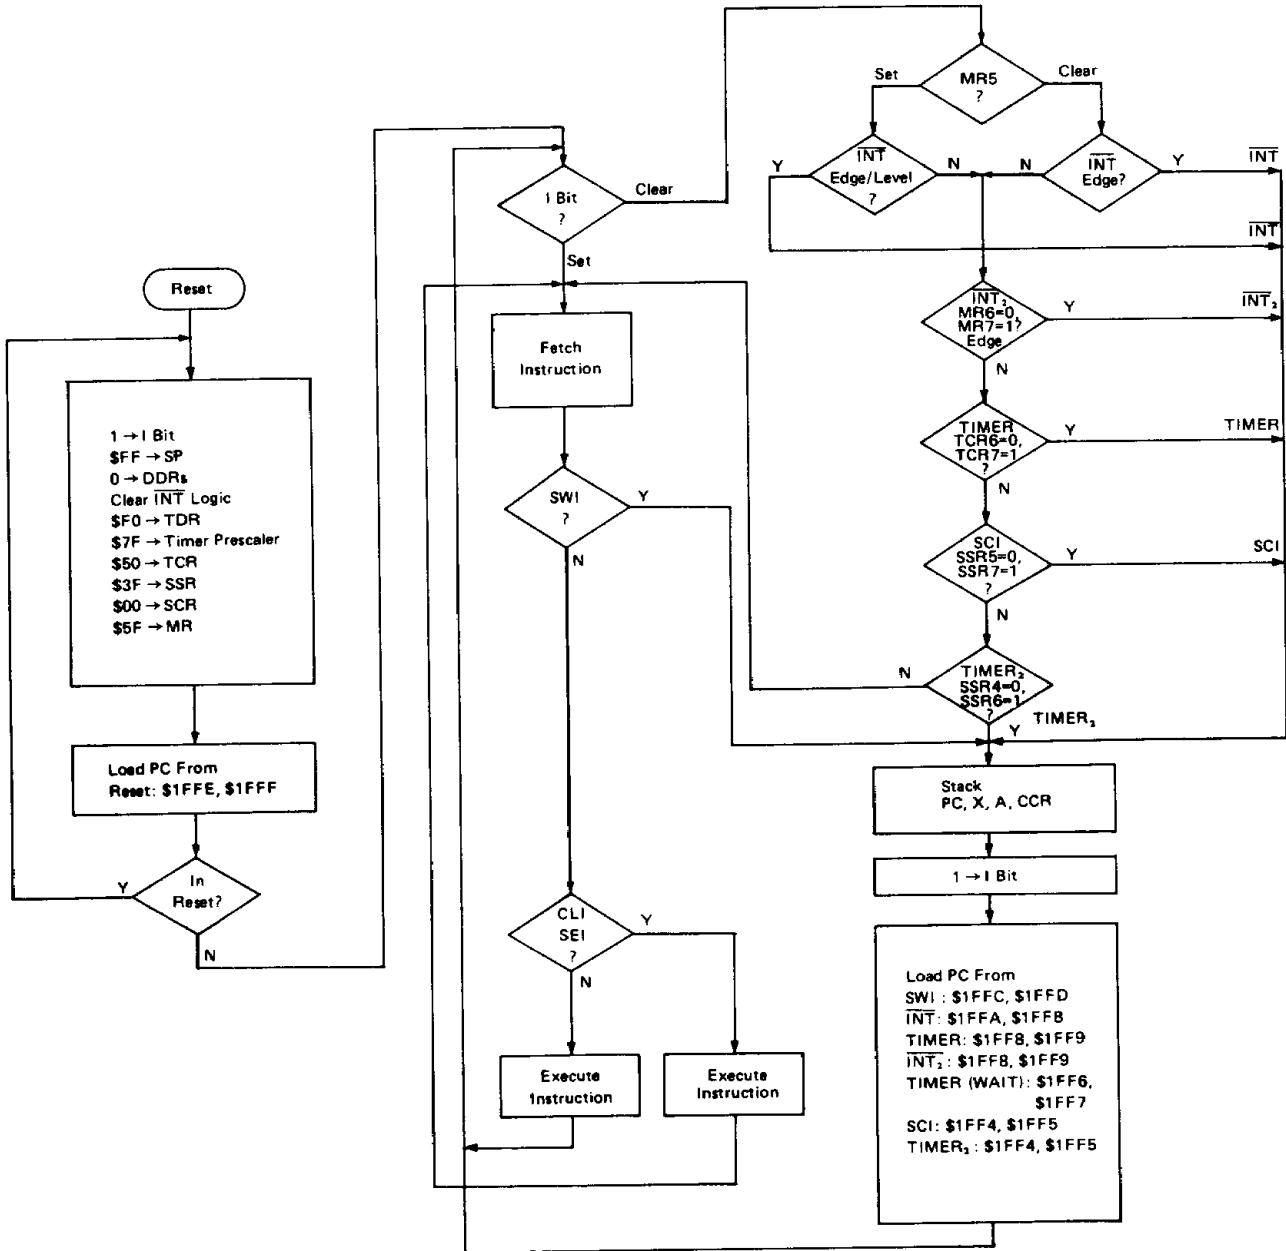
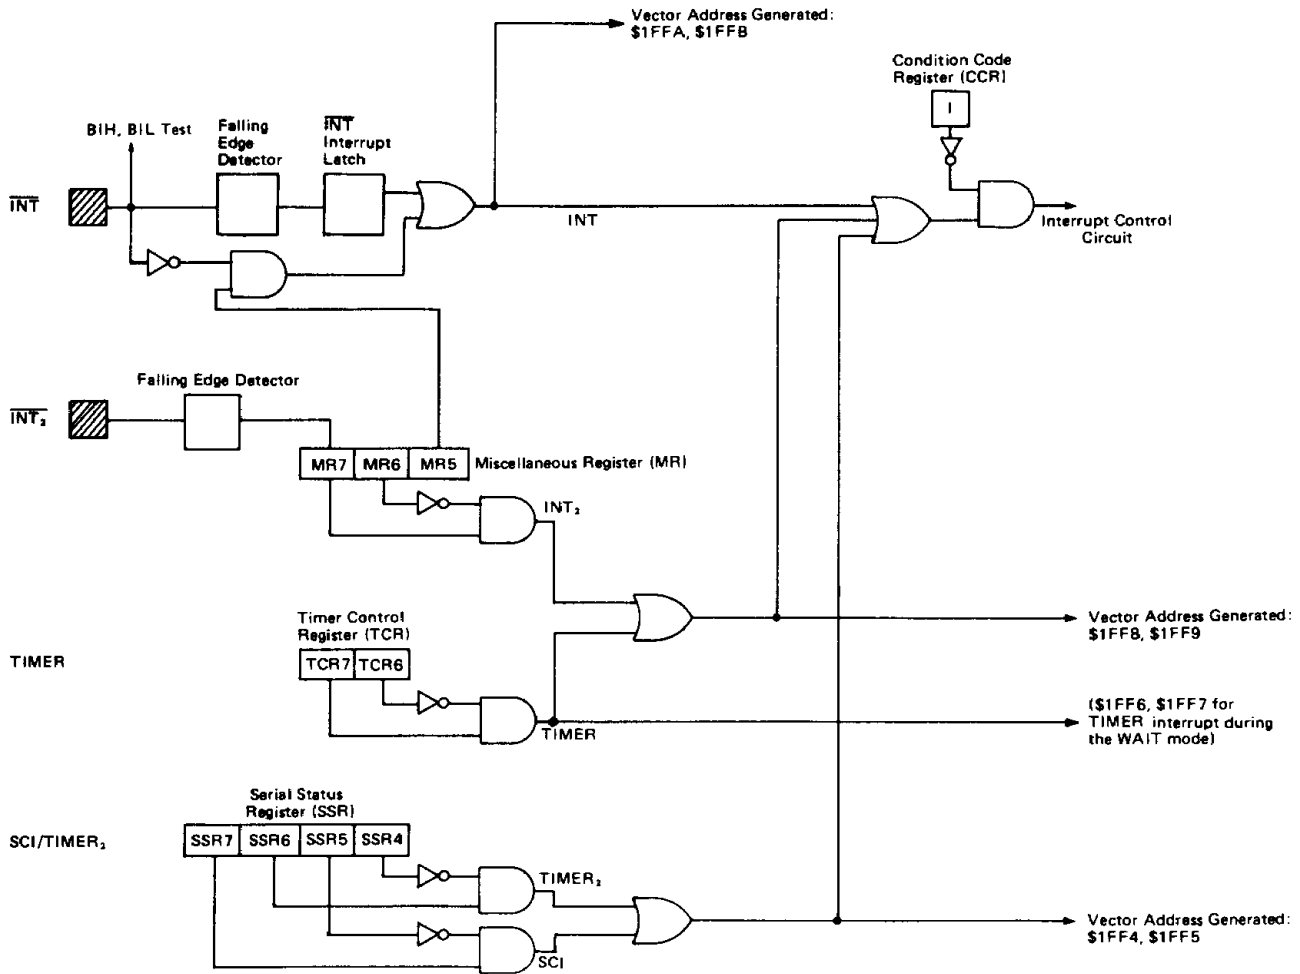

Figure 7 Interrupt Flowchart
Figure 8 Interrupt Request Generation Circuitry
A flowchart of the interrupt sequence is shown in Fig. 7. A block diagram of the interrupt request source is shown in Fig. 8.
In the block diagram of Fig. 8, the external interrupt  $\overline{INT}_2$  is a falling edge trigger input, whereas, the external interrupt  $\overline{INT}$  can be configured as a falling edge trigger input or a combination of falling edge and low level trigger input, depending on the status of bit 5 in the miscellaneous register (MR). When an interrupt request is detected at the  $\overline{INT}_2$  or  $\overline{INT}$  inputs, an interrupt request is generated and latched. The  $\overline{INT}$  interrupt request is automatically cleared if jumping is made to the  $\overline{INT}$  processing routine. Meanwhile, the  $\overline{INT}_2$  request is cleared if "0" is written in bit 7 of the miscellaneous register.